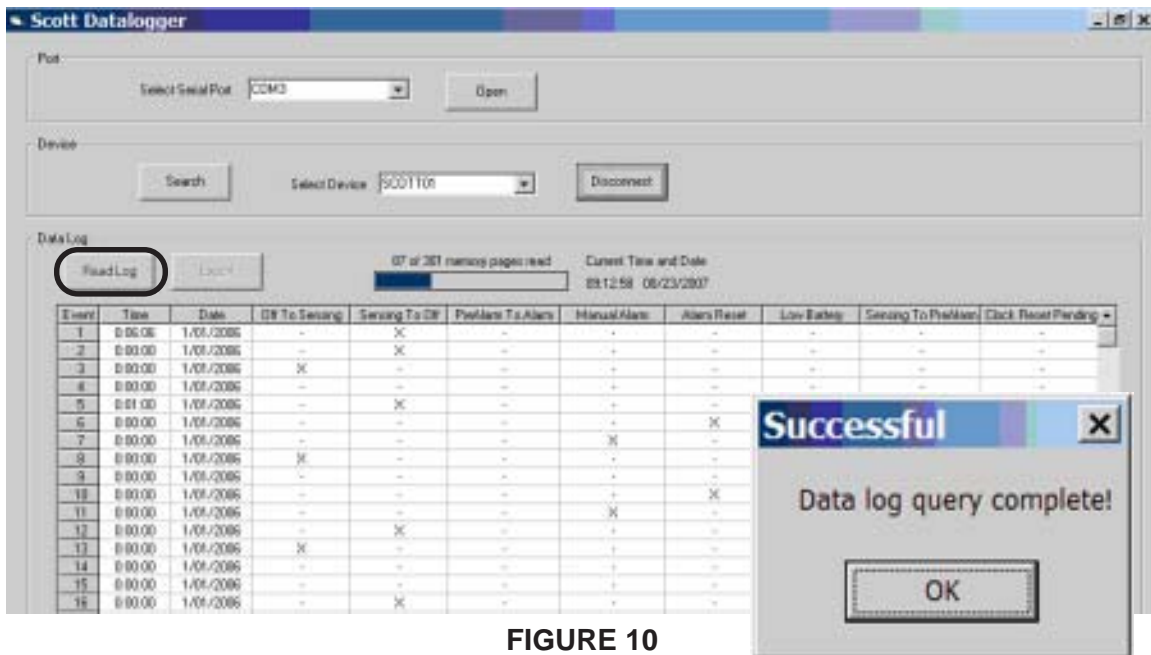

**FIGURE 9**
- When the ID of the active unit appears in the Select Device, click on “Connect” to establish the connection. See FIGURE 9.